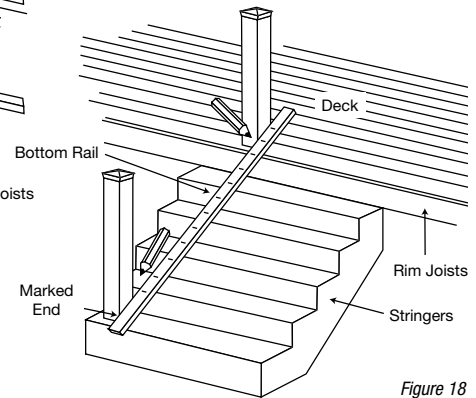

Figure 18
3. Lay bottom rail on stair with marked end at lower post. Center the rail between the posts so that the distance from the post to the first routed hole is equal on both ends. (Figure 18).